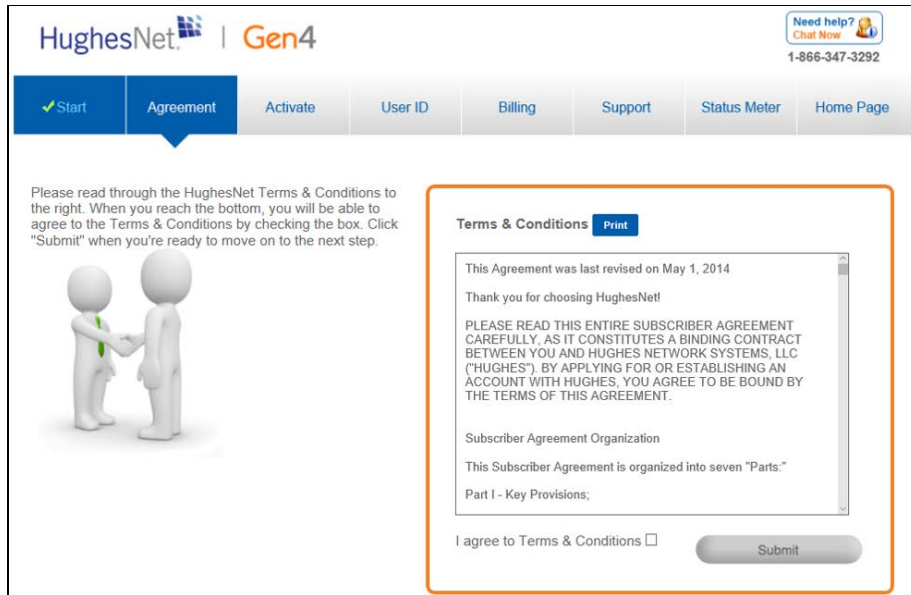

Figure 39: Terms & Conditions screen
8. The Activate screen appears as shown in Figure 39.